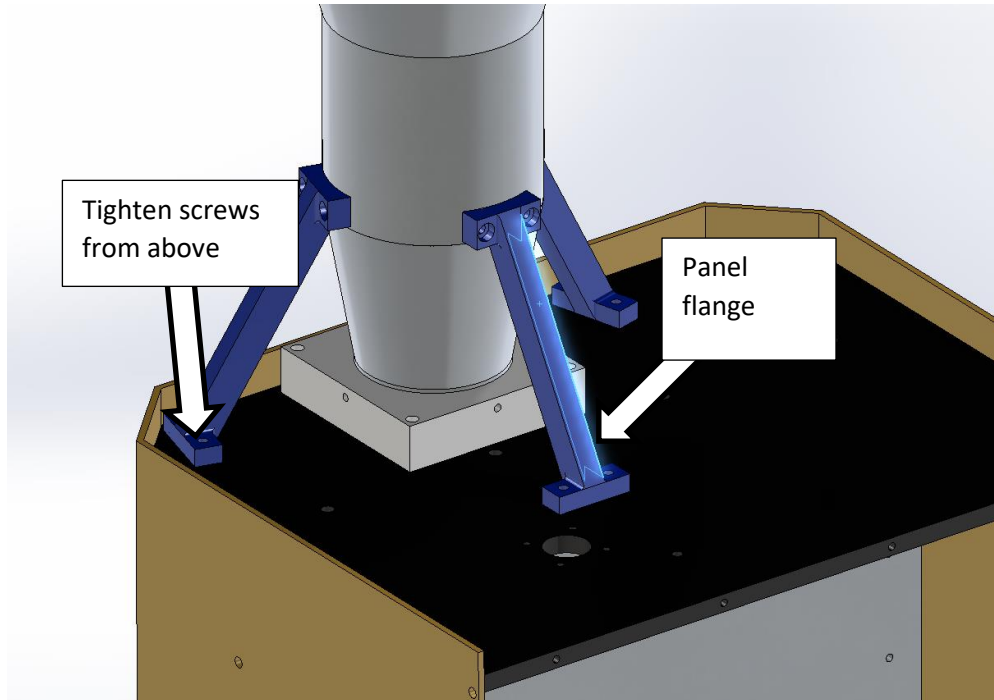

Figure 47: Mounting Swivel-head Inlet
4. Tighten the six sealing screws from above (Figure 47). Each of the instrument's three legs has two screws to secure it. The screws must be installed tightly so that the bottom of the panel flange is seated securely against the instrument cover. This prevents water from entering the FM-120.